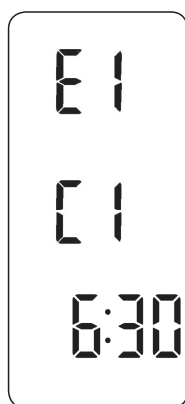

Fig. 17
- a) Press the **PROG** button until event 1 flashes (**Fig. 17**).